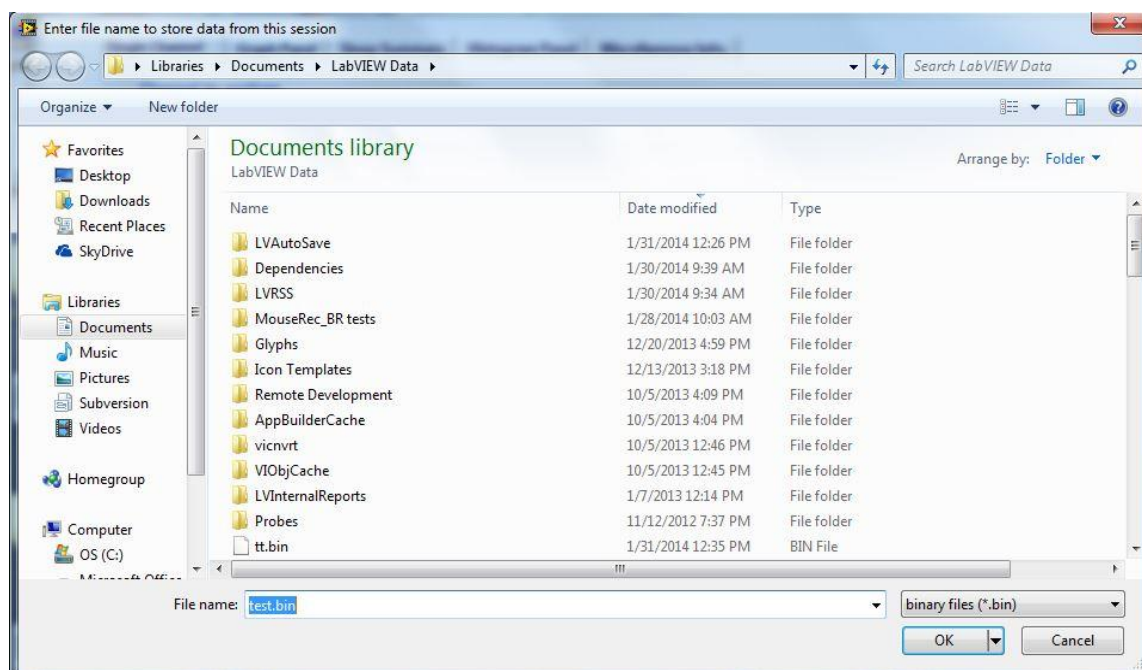
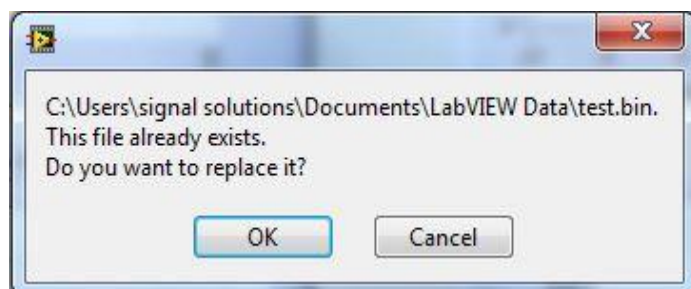

Figure 7. Prompt to enter a filename where data is to be stored during the experiment.
Figure 8. Overwrite existing file?
- F. Next, the program prompts for a file name as shown in Fig. 7. Animal motion/pressure data will be saved to this file for later processing. If a file of the same name already exists in the location, the program will prompt you with an option to overwrite the existing file, as shown in Fig. 8. It is recommended that this file be given a descriptive name that identifies the nature of the experiment or mice and the date the experiment began. It is also recommended that NO extension be given to the file name, since *PiezoSleep* adds its own extensions that are used in later programs (the *bin* extension is given to the files with the raw sensor data). The software that analyzes data after the experiment uses the base name to look for processed files and opens them automatically. If they have different names and extensions, the automatic loading will not work and you will be prompted to search for them with a file/directory navigator.